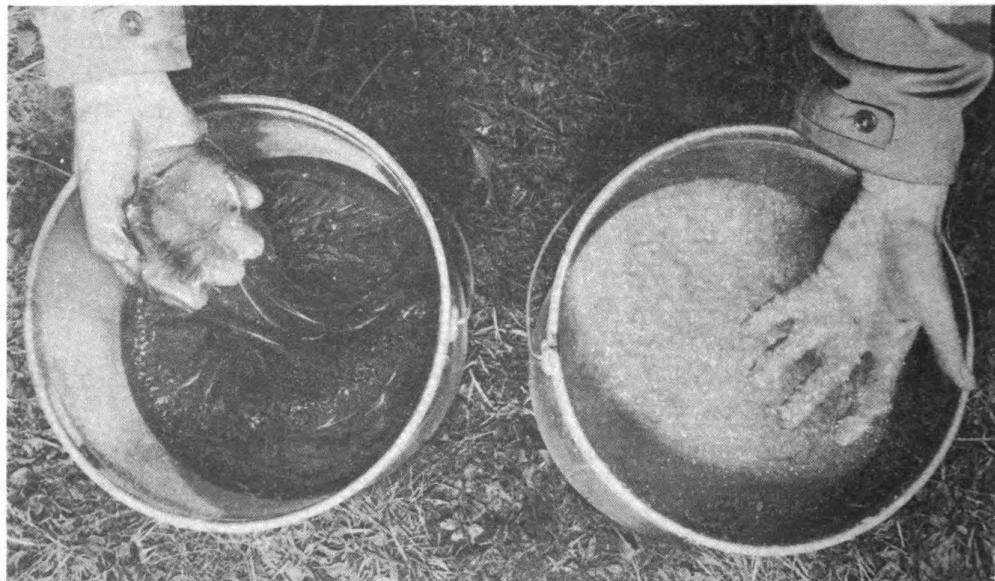

Fig. 111. Contrasting aged thickened fuel, left, with newly mixed fuel, right.
i. Aging and storing. Newly mixed fuel has the appearance of tapioca pudding (fig. 111). Store it overnight before use, if possible. It may be fired, however, within 1 hour after mixing. Store and ship fuel in drums which are clean, moistureproof, dry, strong, and unrustled, but not galvanized. Keep them tightly closed and lay them on their sides so that rain water does not collect around bungs.